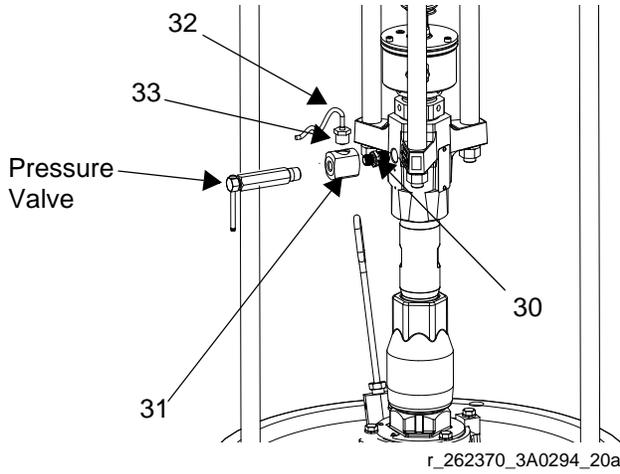

FIG. 43: Install Pressure Sensor
- b. Apply the supplied sealant to the adapter (30), the manifold (31), and the pressure valve. Install all three in the order listed. See FIG. 43.
- d. Install the o-ring (33) and pressure sensor (32); use zip ties (35) to secure the cable to the ram and air hose.